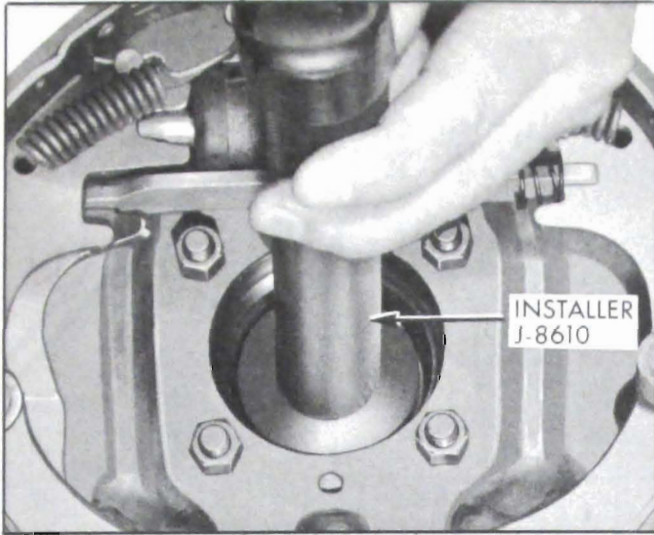

Figure 6-9—Installing Axle Shaft Seal
4. Position seal over Installer J-8610 and drive seal straight into axle housing until fully seated. See Figure 6-9.